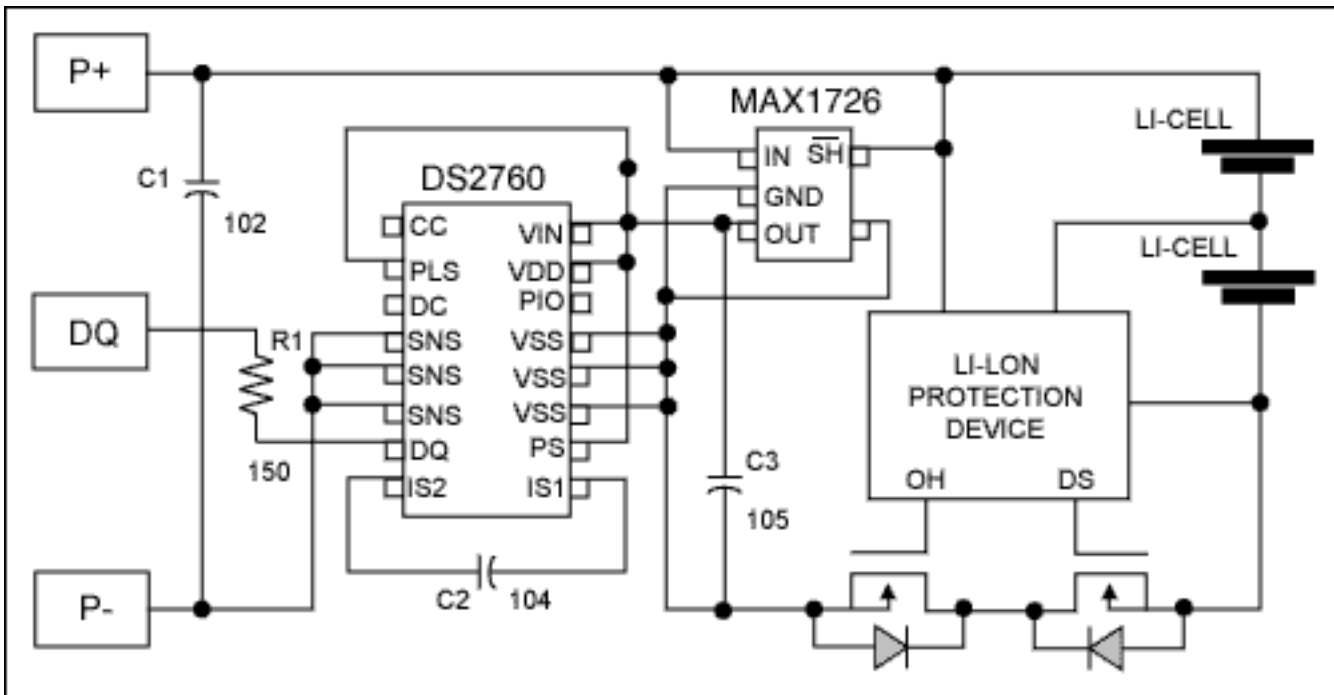

Figure 1. Example schematic of the DS2760 in a 2-cell Li-Ion/Polymer battery pack.
The schematic of **Figure 1** illustrates a possible use of the DS2760 in a multi-cell application. The passives connected to the DS2760 are necessary for proper filtering and ESD enhancement, as indicated in the DS2760 datasheet. Please refer to the specification of the specific LDO and protector you are using for recommended schematic. The DS2760/LDO must reside on the contact side (as opposed to the cell side) of the protector, as drawn.
With the recommended supply voltage range of the DS2760, the device must be powered (Vdd) by an LDO with an output voltage from 3.0V to 4.0V, such as the Maxim MAX1726EUK33. The schematic in Figure 1 assumes that a DS2760 is being used that contains the internal 25mΩ current sense resistor. Otherwise, a low impedance external sense resistor would be required between the SNS and VSS nodes of the DS2760. Refer to the DS2760 datasheet on choosing an appropriate external sense resistor for your application. The schematic of Figure 1 is nearly identical to that recommended in the DS2760 datasheet for single-cell applications. The following contains a list of differences to the schematic and recommended device configuration from the datasheet.
1. The integrated protector of the DS2760 must not be used in a multiple cell application. Thus, CC and DC should be left floating. Any multiple-cell standalone protector can be used, supporting either NMOS or PMOS FETs. The standalone protector must be placed on the cell side of the DS2760, as illustrated in Figure 1.
7. Although it was not implemented in the schematic of Figure 1, the Programmable I/O (PIO) pin may be used to sense a logic level or mirror DQ activity (to control a vibrating motor, for example) so long as the I/O specs of the PIO pin are not violated. The absolute max voltage of the PIO pin (with respect to VSS) is +12V.